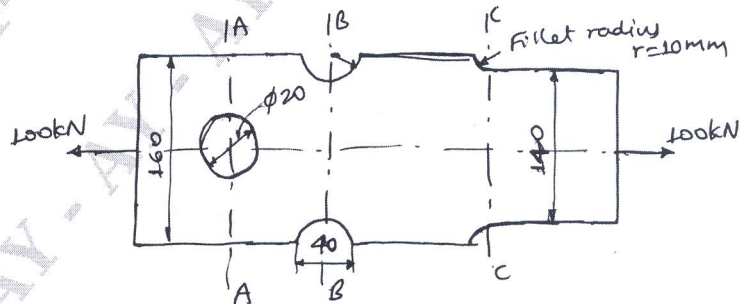

Fig.Q3(b)
- b. A flat bar shown in Fig.Q3(b) is subjected to an axial load of 100 kN. Assuming that stresses in the bar is limited to 200 N/mm^2 . Determine the thickness of the bar.